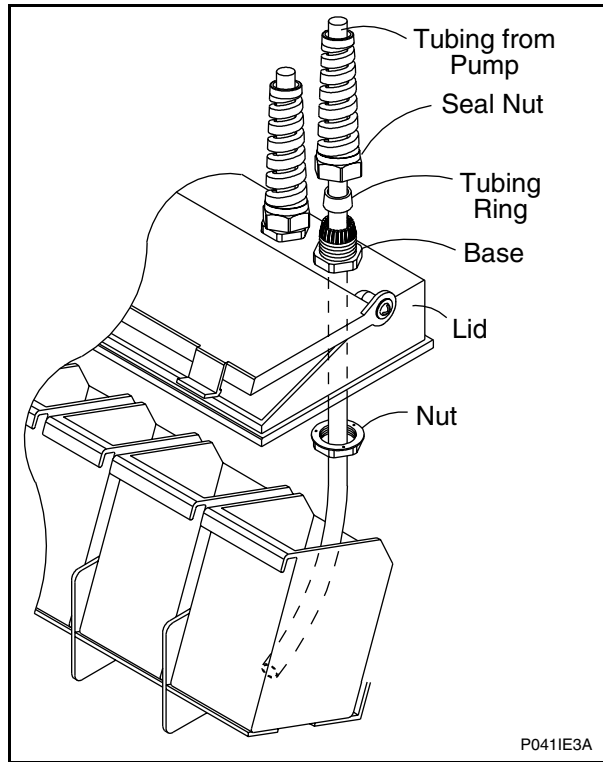

Figure 12
1. Remove plugs from base. See Figure 12. Plugs are assembled inside the tubing ring.